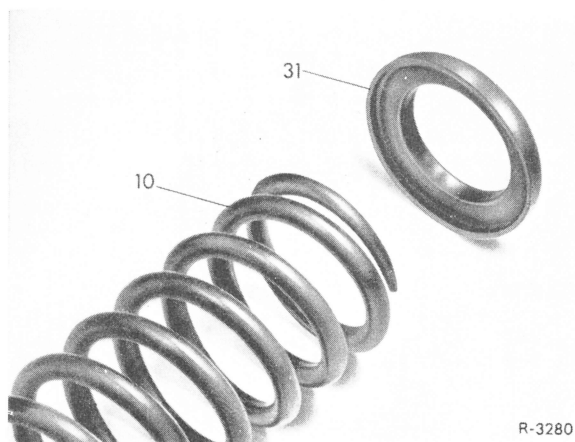

Fig 5
6 Insert front spring with ground end up and with rubber mounting attached (31) (Fig. 5).